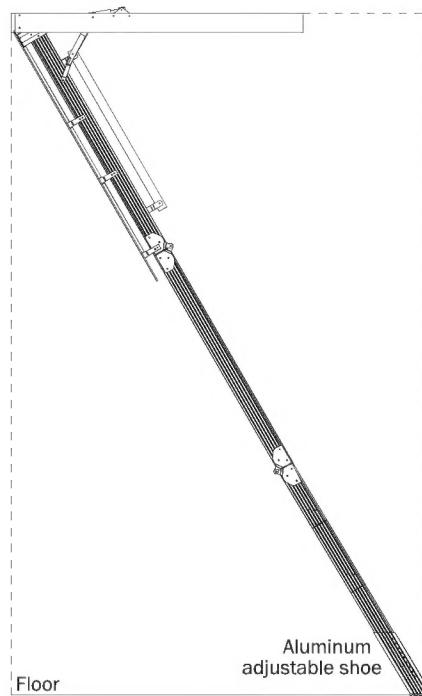

Figure 13
- No gaps between sections and both feet flat on the floor should be the result (See Figure 13).